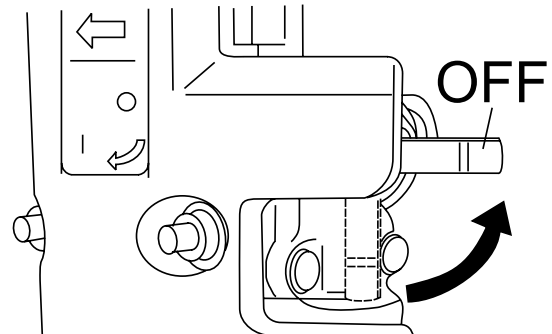

Figure 35. Fuel Valve Lever (OFF)
4. Close the fuel shut-off valve (Figure 35) by moving the fuel valve lever to the "OFF" position.